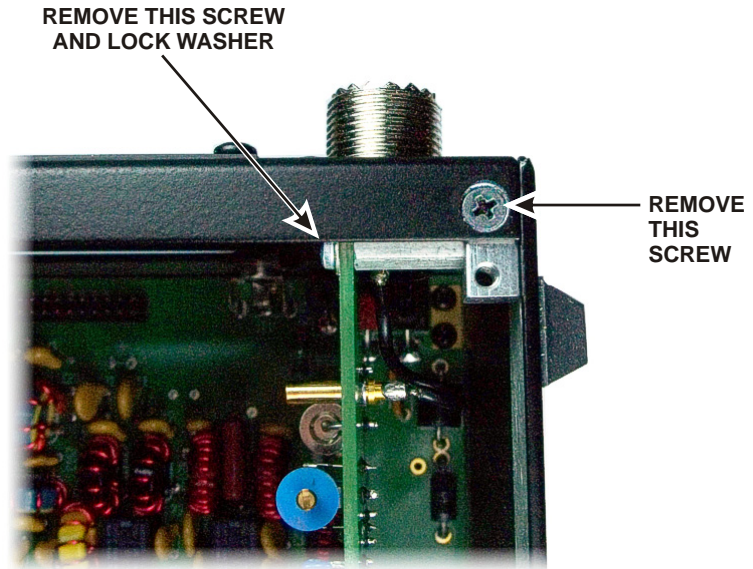
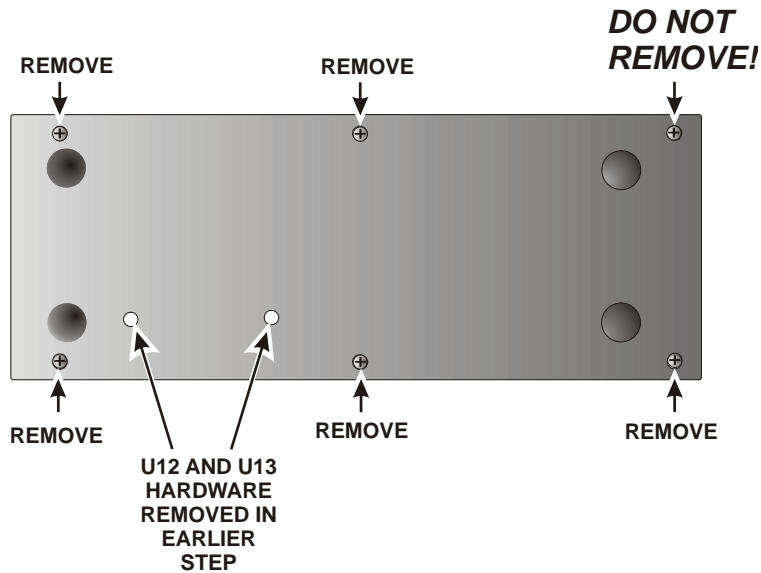

Figure 3. Removing Hardware Part 1.
Figure 4. Removing Hardware, Part 2.
☐ Remove the screw holding the KANT3 board to the standoff and the screw holding the 2D fastener to the rear panel near the SO239 antenna connector shown in Figure 3. Do not lose the lock washer inside the K3. It is easier to keep the hardware from falling inside if you set the K3 on its side feet and remove the screw and lock washer holding the KANT3 board first, then set it on its bottom feet and remove the flat head screw from the 2D fastener.
☐ Remove the five screws shown in Figure 4 from the right side panel to release it. The side panel will lift off with the 2D fastener and standoff shown in Figure 3 attached.
- Replace the right side panel on the K3, installing screws shown in Figure 4 first. Use 4-40 3/16" (4.8 mm) screws.
- Replace the 4-40 1/4" (6.4 mm) zinc pan head screw and washer that holds the KAT3 board to the standoff as shown in Figure 3.
- Replace the 4-40, 3/16" (4.8 mm) black flat head screw that secures the back panel to the 2D fastener as shown in Figure 3.